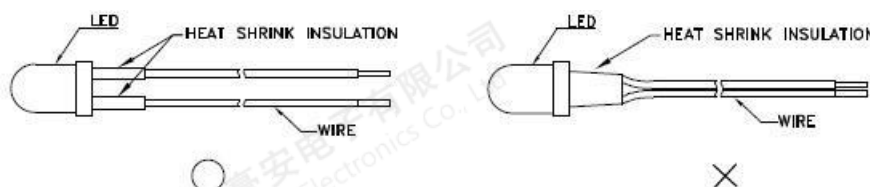

Figure 2
2. When soldering wire to the LED, use individual heat-shrink tubing to insulate the exposed leads to prevent accidental contact short-circuit (Fig. 2)